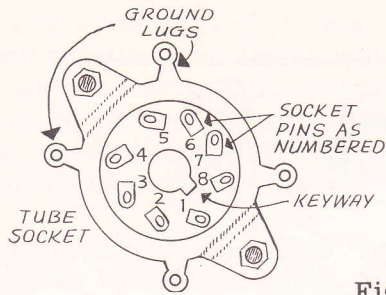

Figure 1
- () Refer to Figures 1 and 2, and note that the contacts on the tube sockets are numbered consecutively in clockwise sequence when viewed from the bottom of the socket. Also, note the keyway between contacts 1 and 8 on the octal sockets. Mount an octal socket in hole D, locating this keyway as shown in Pictorial 1. Use 6-32 hardware, place a lockwasher under the nut, and tighten securely.